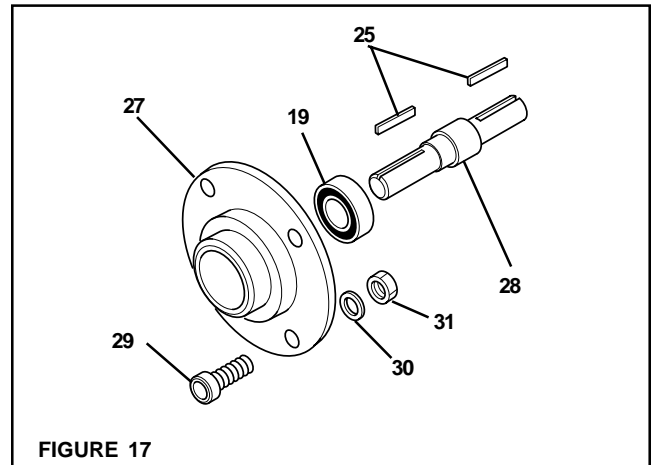

FIGURE 17
2. Fully supporting the Input Unit, press the Shaft (Item 28) out of the Input Unit (See Figure 17).
3. Using a bearing puller, remove the Bearing (Item 19) from the Flange (Item 27) (See Figure 17).
5. Apply an adequate amount of Loctite® 680 to evenly coat the outer race of the new Bearing (Item 19) (See Figure 17).
6. Carefully align the outer race of the new Bearing (Item 19) with the bore of the Flange (Item 27) and press the new Bearing into place (See Figure 17).
7. Press the Shaft (Item 28) into the Input Unit (See Figure 17).